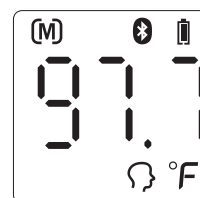

Figure 9
2. The thermometer will automatically memorize the last 30 temperature readings. Each memory also records the measurement mode icon. Each time the *Memory BUTTON* is pressed, the screen displays past readings that correspond with a number 1-30. The number 1 reflects the most recent reading, while the number 30 reveals the oldest reading stored in memory. (See Figure 9)